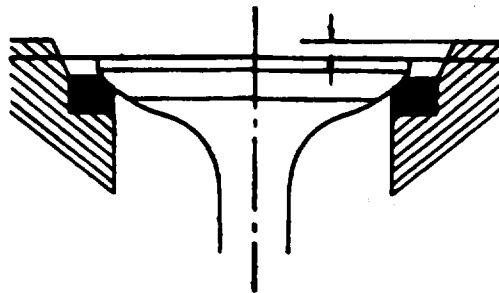

FIGURE 3-69. Valve Depression
- (1) Install valve in cylinder head, refer to FIGURE 3-69.